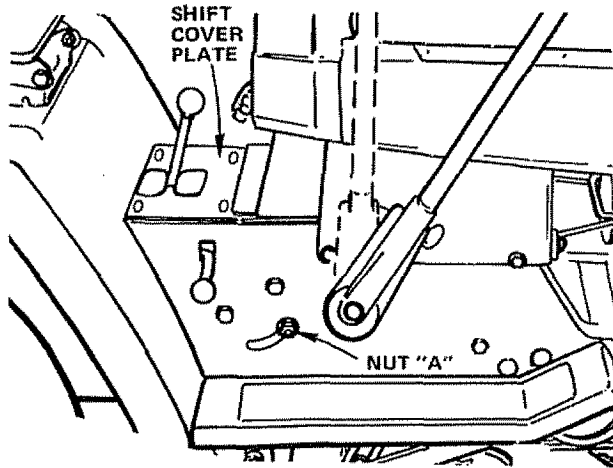

FIGURE 50
- To tighten Belt, remove (4) Hex Washer Head Tapping Screws from Shift Cover Plate (Fig. 50) located on top of tractor frame. Remove the Cover Plate.
- Loosen Nut "A" located on outside of R.H. Chassis Frame (Fig. 50), slide Take-Up Idler down approximately 1/2" and tighten Nut "A".
- Remove (4) Hex Washer Head Tapping Screws from Shift Cover Plate (Fig. 50), located on top of tractor frame. Remove the Cover Plate.